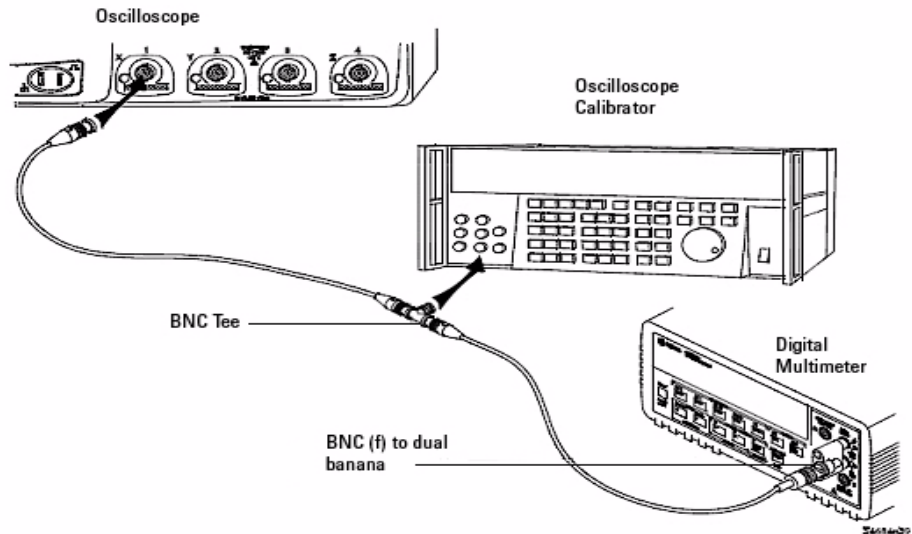

Figure 2-2 Voltage measurement accuracy verification test setup
- 5 Use the BNC tee and cables to connect the oscilloscope calibrator or power supply to both the modular oscilloscope and digital multimeter (see Figure 2-2).